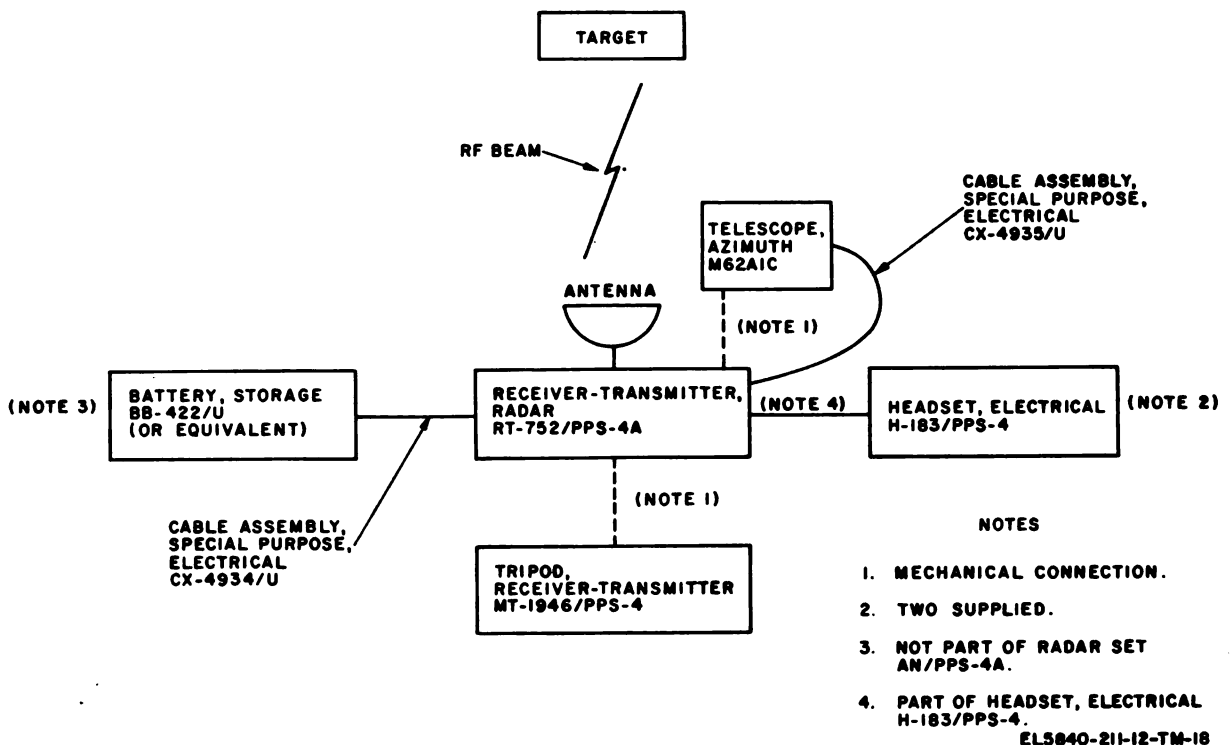

Figure 5-1. Radar Set AN/PPS-4A, block diagram.
7). A block diagram (fig. 5-1) and a brief discussion of radar set basic theory (para 5-9) is provided to help the organizational repairman to sectionalize trouble to a major component
The block diagram (fig. 5-1) of the radar set can be used as a quick review of the basic functions of the equipment.